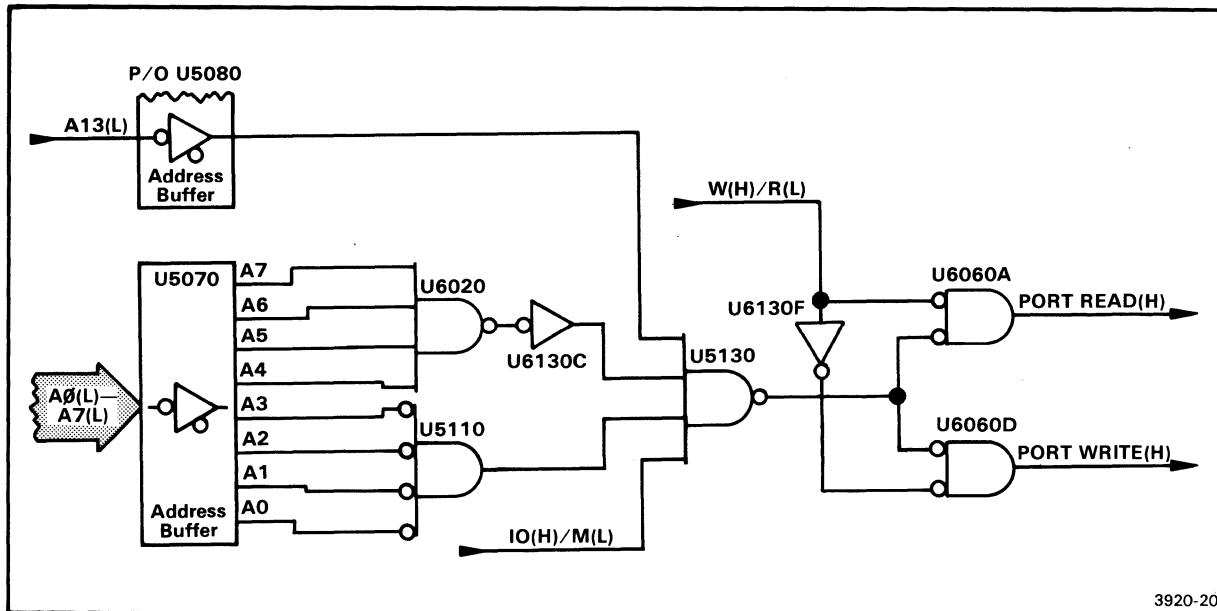

Fig. 7-2. I/O port decoder logic.
Figure 7-2 is a simplified schematic of the I/O port decode logic. A combination of gates (U5110, U5130, and U6020) are used to decode the I/O port address D8 and associated control lines. The result is a PORT READ(H) control line during a read operation and a PORT WRITE(H) control line during a write operation.